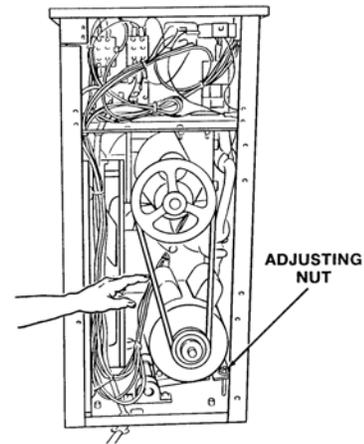

Figure 68. Belt Tension Adjustment
- Install and adjust belt to the proper tension (Figure 68).